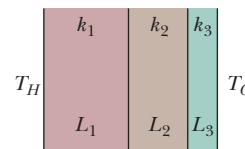

Figure 18-46 Problem 60.
**•60**  Figure 18-46 shows the cross section of a wall made of three layers. The layer thicknesses are  $L_1$ ,  $L_2 = 0.700L_1$ , and  $L_3 = 0.350L_1$ . The thermal conductivities are  $k_1$ ,  $k_2 = 0.900k_1$ , and  $k_3 = 0.800k_1$ . The temperatures at the left side and right side of the wall are  $T_H = 30.0^\circ\text{C}$  and  $T_C = -15.0^\circ\text{C}$ , respectively. Thermal conduction is steady. (a) What is the temperature difference  $\Delta T_2$  across layer 2 (between the left and right sides of the layer)? If  $k_2$  were, instead, equal to  $1.1k_1$ , (b) would the rate at which energy is conducted through the wall be greater than, less than, or the same as previously, and (c) what would be the value of  $\Delta T_2$ ?